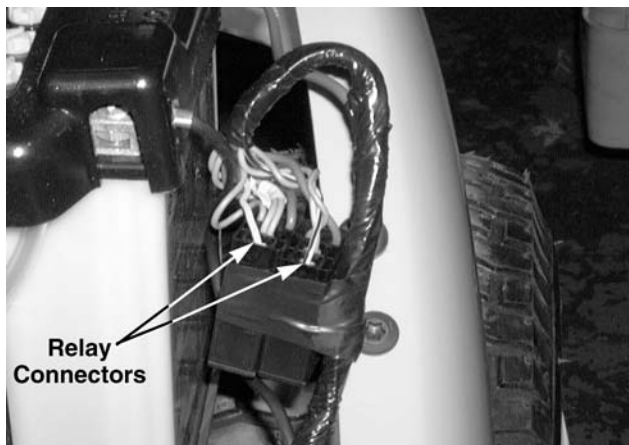

**Figure 8-91.**
–There will be **NO CONTINUITY**. See Figure 8-91.